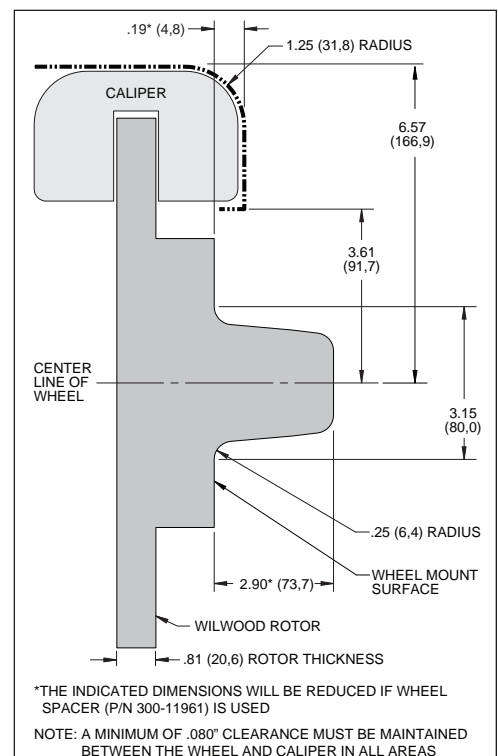

Figure 2. Wheel Clearance Diagram
- Review the Wheel Clearance Diagram (Figure 2, page 3) to verify that there is adequate clearance with the wheels you will be using with the installation.
- Verify wheel clearance utilizing Figure 2.
- WARNING:** The wheel contact surfaces must seat completely on the face of the hub. If any contact surfaces overhang the outside diameter of the hub face, a 6.60" diameter x .20" thick steel spacer (item 24, Wilwood P/N 300-11961) MUST be used between the wheel and the hub.